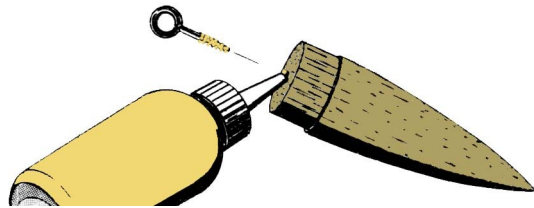

Figure 5
- **Step 8** As shown in Fig. 5, thread the screw eye into the center of the base of the nose cone, then remove the screw eye. Apply construction glue into the screw eye hole, and onto the screw eye threads. Reinsert the screw eye into the hole, but do not wipe away the excess glue. Allow to dry.
- **Step 9** Cut six (6) main fins from 3/32" sheet stock, and six (6) forward fins from 1/16" sheet stock. Give only the surfaces a gentle sanding with 220-grit paper.